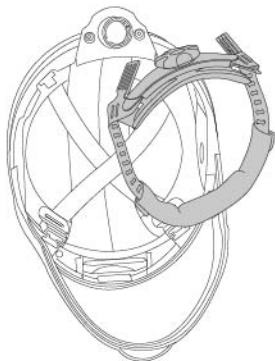

fig.14a
Step 1 : Remove complete headgear (See fig.14a).